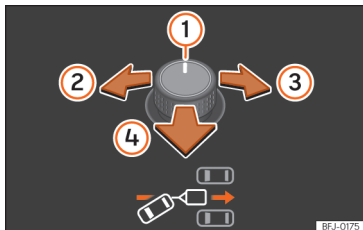
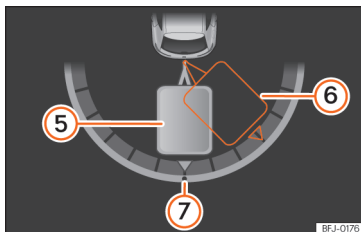

Fig. 211 Rotary exterior mirror controls.: adjust the trailer angle.
Fig. 212 Instrument panel display: engage reverse gear
Key of the **Fig. 211**, **»» Fig. 212**:
• Tilt the rotary control until the desired direction is reached **»» Fig. 211**. A representation of the tow vehicle and trailer set is shown on the instrument cluster screen for guidance purposes **»» Fig. 212**.